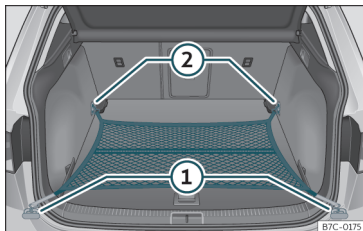

Fig. 143 In the boot: net bag hooked up at floor level.
- As applicable, lift the front fastening rings >>> **Fig. 143** ②.
- Secure the net hooks to the fastening rings ② >>> ⚠. The bag zip should be facing upwards.
- Secure the net hooks to the fastening rings ①.